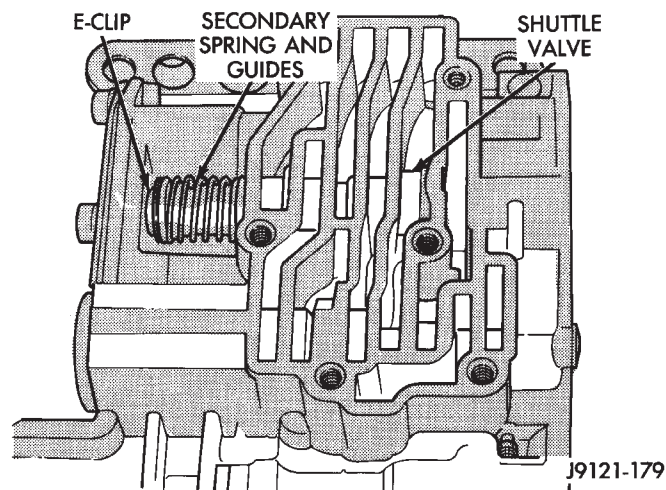

Fig. 63 Shuttle Valve E-Clip And Secondary Spring Location
(3) Remove E-clip that secures shuttle valve secondary spring on valve stem (Fig. 63).